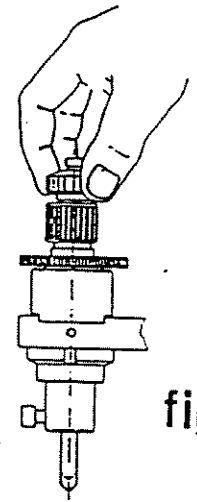
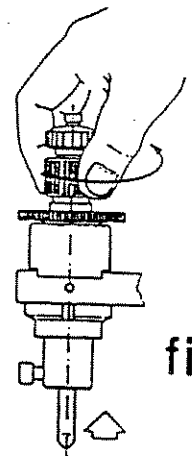
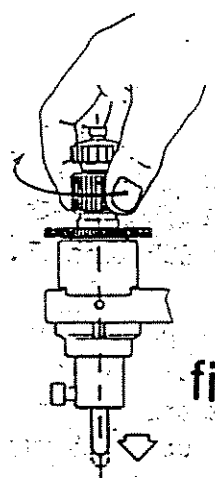

fig. 3a
fig. 3b
fig. 3c
Turn on the motor (E) and check that when the tracer point touches the left-hand key, the cutter should just skim the right-hand key to leave a slight groove. If this groove appears too deep, loosen the adjustment screw nut (N), turn the adjustment screw (M) clockwise. This will lower the tracer point (fig.3c) (note that the spring loaded release nut (O) must be unscrewed to free the adjusting screw (M)(fig.3a)), lifting the the cutter from the key. However, if no contact is made between the cutter and the key, anti-clockwise turning of the screw (M) will adjust correctly (fig.3b). When the cutting depth is perfect, tighten the locking nut (N). Loosening the spring loaded nut still further will allow the tracer point to locate onto the left-hand keyblank before the cutter comes into contact with the right-hand keyblank.